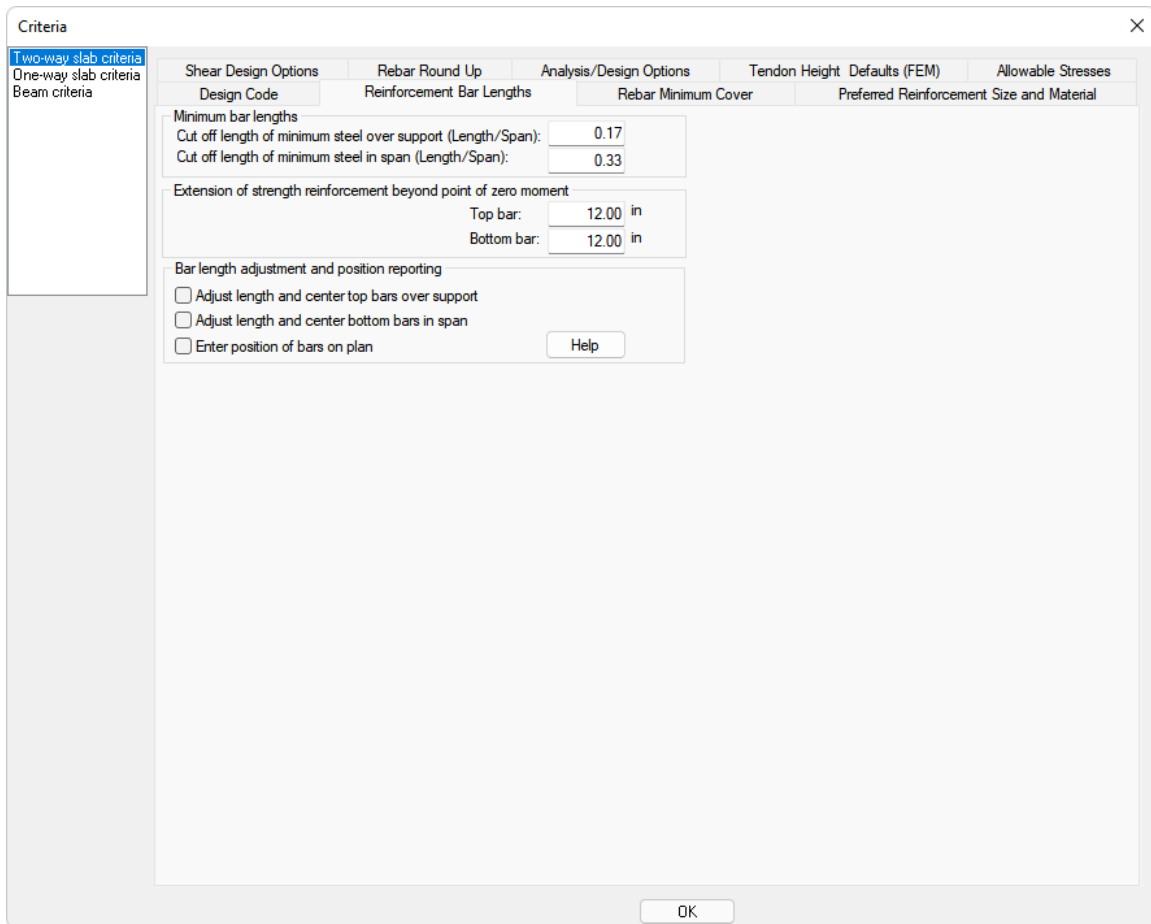

FIGURE 2-11
- Click on the **Reinforcement Bar Lengths** tab. This will open the window from **FIGURE 2-11**.